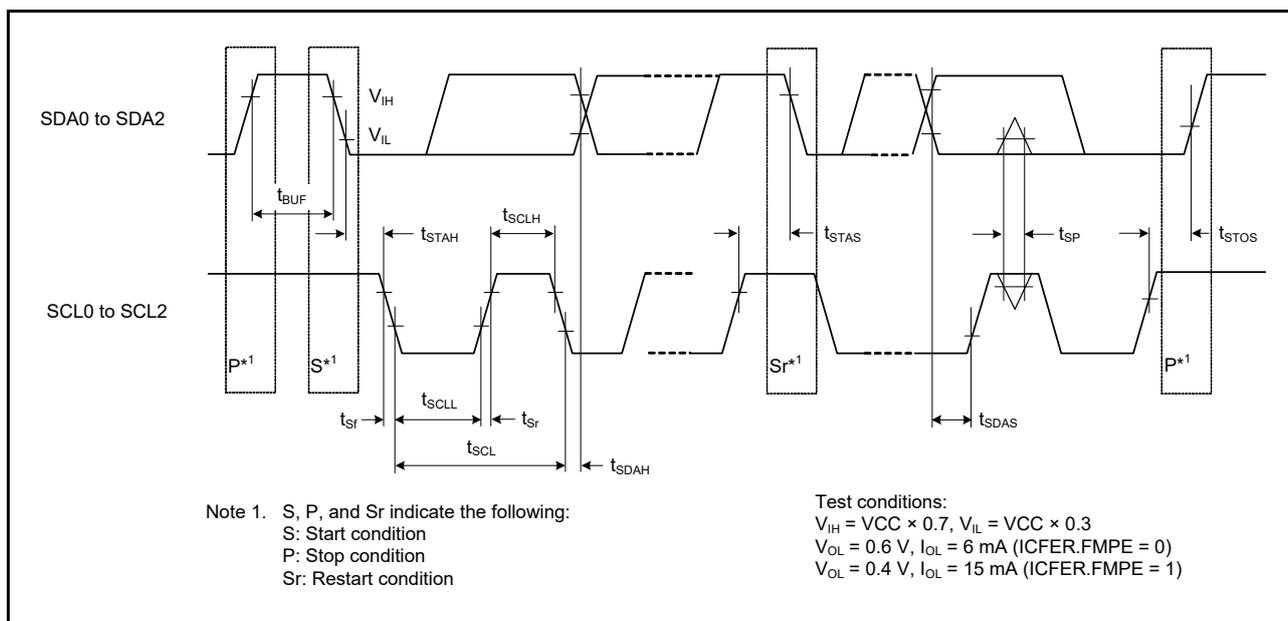

Figure 2.57 I2C bus interface input/output timing
| IIC (Standard mode, SMBus) ICFER.FMPE = 0 | SCL input cycle time | t_{SCL} | $6 (12) \times t_{IICcyc} + 1300$ | - | ns | Figure 2.57 |
| IIC (Fast mode) | SCL input cycle time | t_{SCL} | $6 (12) \times t_{IICcyc} + 600$ | - | ns | Figure 2.57 |
| IIC (Fast-mode+) ICFER.FMPE = 1 | SCL input cycle time | t_{SCL} | $6 (12) \times t_{IICcyc} + 240$ | - | ns | Figure 2.57 |